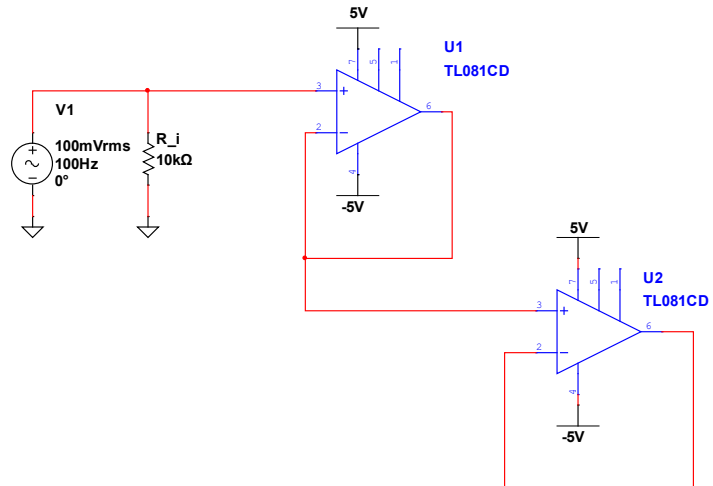
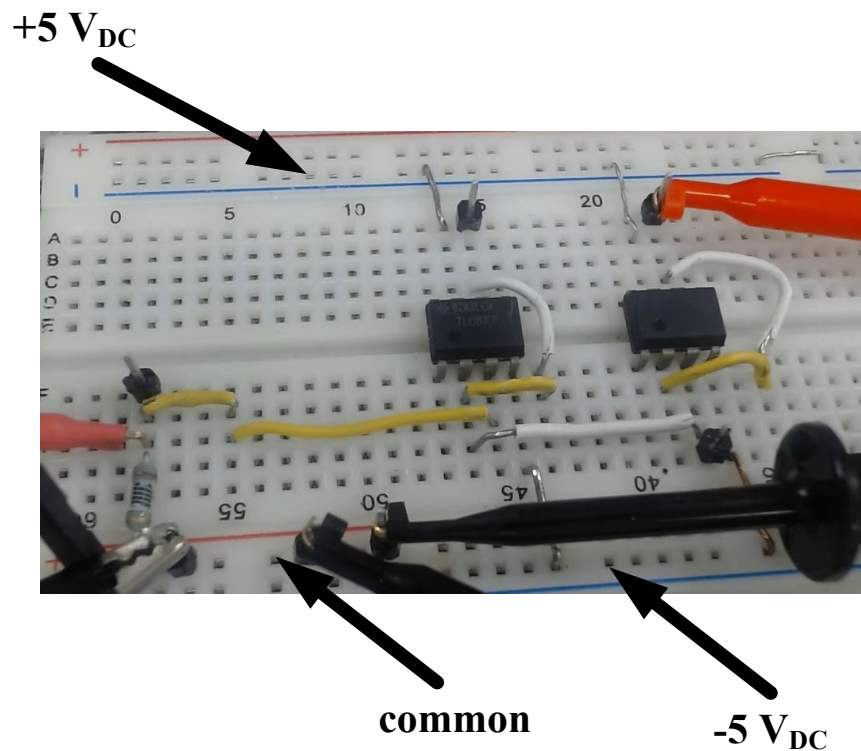

Figure 1a Schematic of two voltage followers
Figure 1b Protoboard build of two voltage followers
1. Build the circuit shown in the schematic Figure 1a, precisely as shown in the photo Figure 1b.